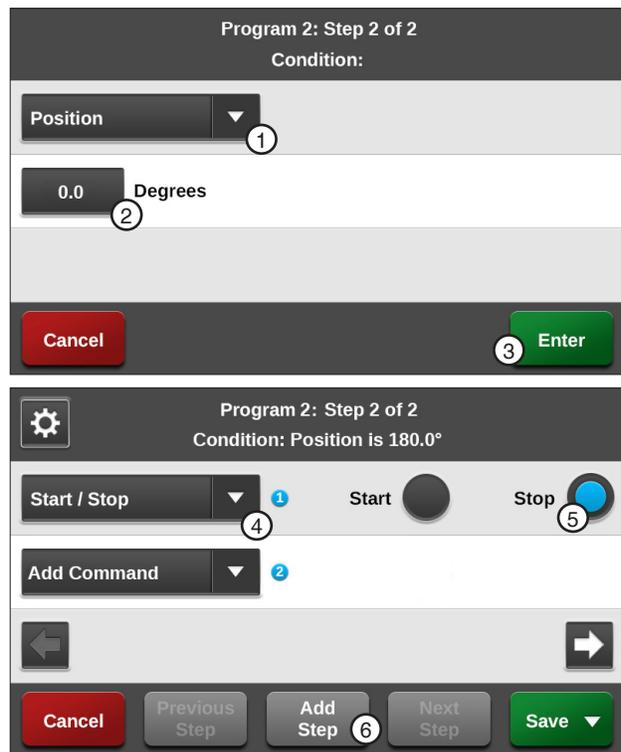

Figure 130-2 1. Position Condition 4. Start/Stop Command
4. Program the position condition for this step. Refer to Figure 130-2.